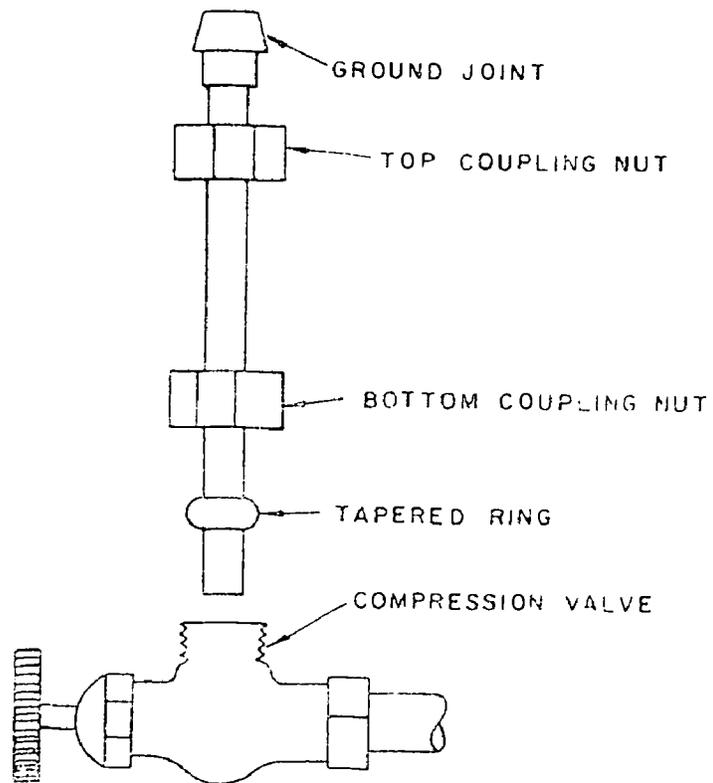

Fig. 3
8. What type of joint is illustrated in figure 3 (Diagram 32), that will be used to connect to faucets? (Use the diagram below.)